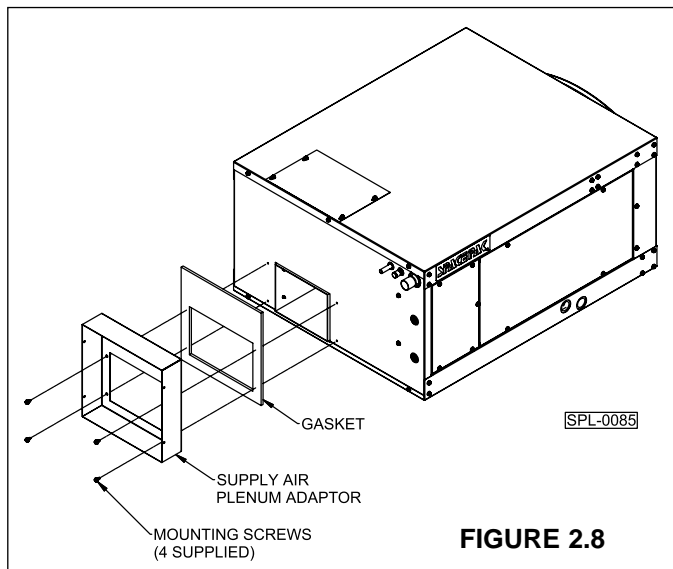

FIGURE 2.8
A. HORIZONTAL DISCHARGE: Refer to Figure 2.8.